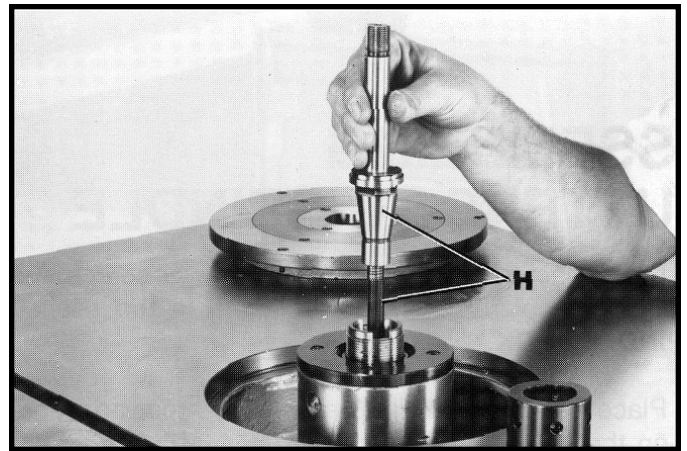
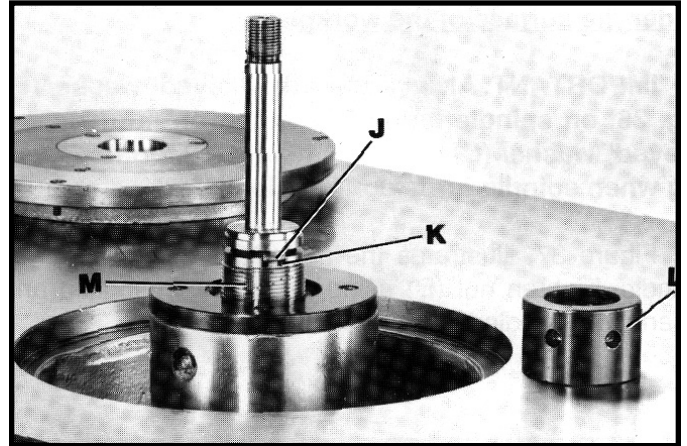

Fig. 31
Fig. 32
5. Very carefully insert the draw bar and spindle (H) Fig. 31, down through the lower spindle as shown. Make sure the tang (J) Fig. 32, on the spindle, is engaged with the notch (K) as shown, and thread spindle nut (L) onto threads (M).